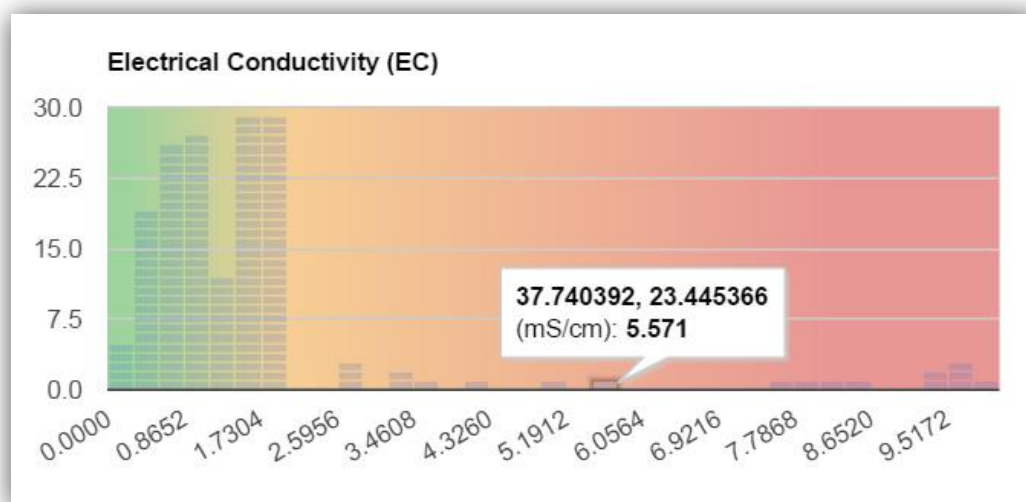

Figure 17. Histogram of measurement data for EC soil indicator in year 2015
In Figure 17 above, the electrical conductivity (EC) soil degradation indicator is selected as an example for the regional analysis process. Similarly, three main risk zones are considered with respect to values of field measurement data: low (green), medium (orange) and high (red) risk zones are presented as a gradient colored background that is dynamically embedded within the histogram, for assisting the user on the quick and easy evaluation of cultivated areas on a regional scale.